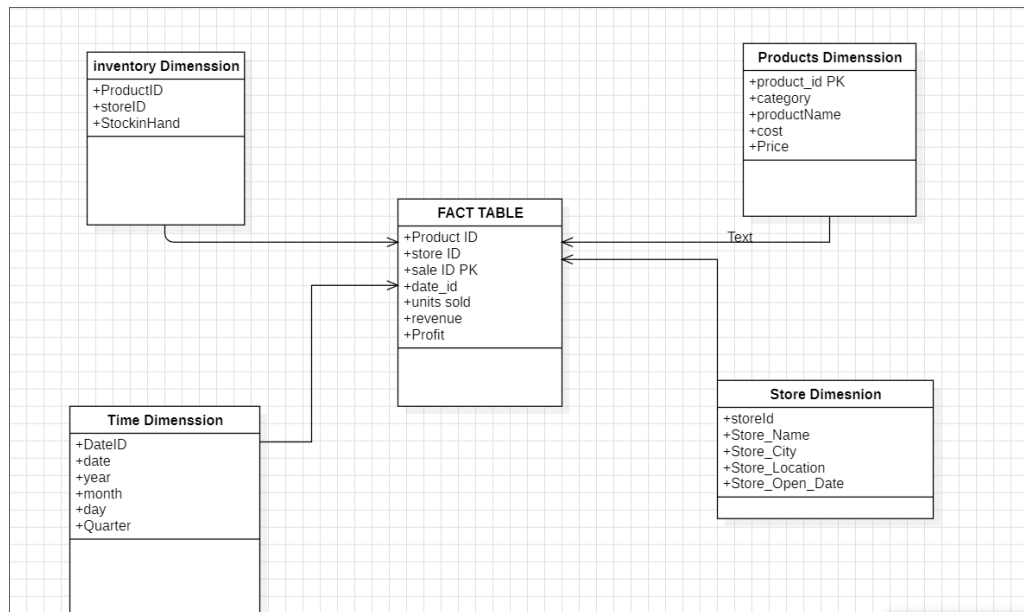

Figure 1: Star Schema Data Warehouse
- Following the class Diagram (Figure 1) I created my full schema using mysqlqueries since i found it more convenient than using Talend,you will find the sql file here (see Reference 2)